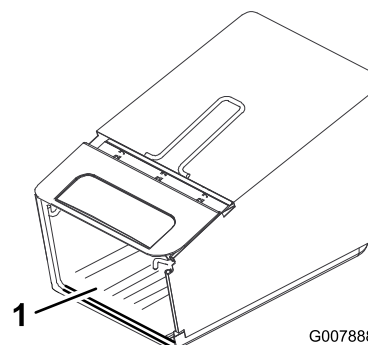

Figure 7
2. Ensure that the sides of the bag base are **inside** the bag frame as shown in (Figure 7).